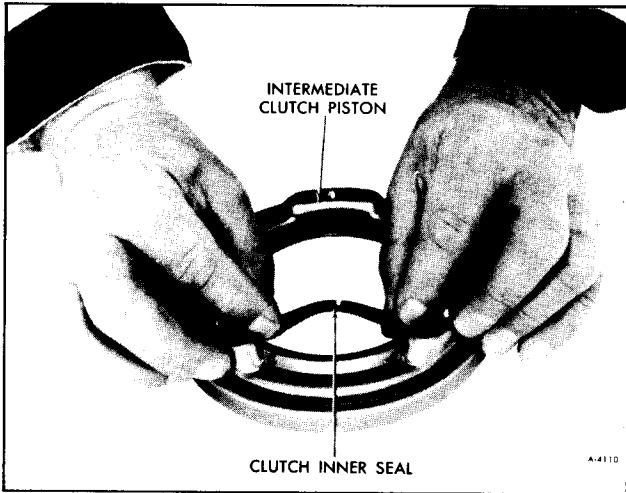

Figure 64—Removing or Installing Inner Seal
1. Lubricate new inner and outer clutch piston seals with transmission fluid. Lubricate seal grooves in intermediate clutch piston and install seals with lips facing away from spring guide, Figures 64 and 65.